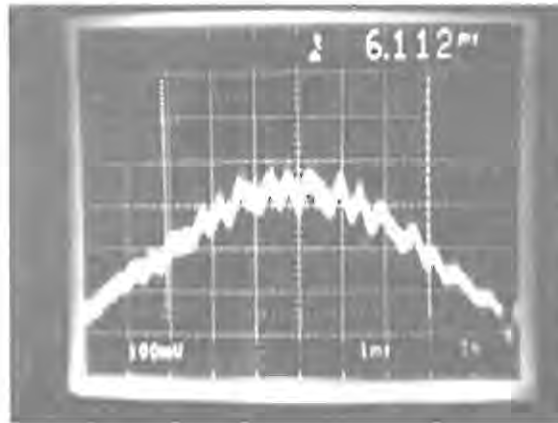

Fig. 4.5 Typical spectrum from Regen cavity
- 3) Monitor the Q-switch spectrum out of the Regen on the Oscilloscope. It should appear as shown in Fig. 4.5.